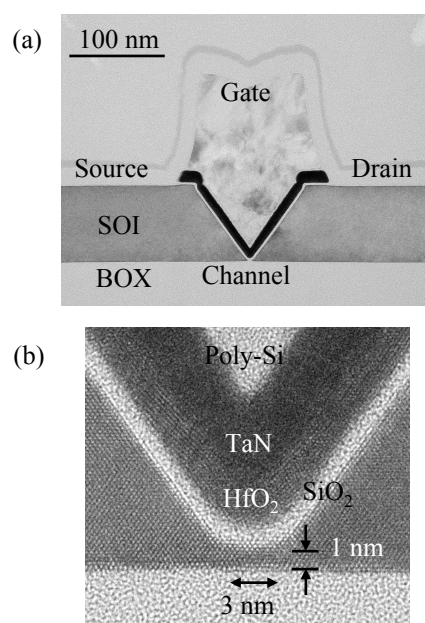

Fig. 1 (a) TEM image of the V-groove MOSFET and (b) the high resolution image of the channel region.
Cross-sectional TEM image of the V-groove MOSFET is shown in Fig. 1. The V-groove consists of atomically flat Si(111) facets. The channel thickness below the V-grooves is as thin as 1 nm. The channel length, determined by the width of V-groove bottom is as short as 3 nm. It is noted that the SOI layer is uniformly doped with high concentration dopants by the long-period anneal at 1000°C. The MOSFET thus fabricated is the junctionless-FET (JL-FET) [3]. The current flow is controlled at the ultrathin channel region with 3-nm-length and 1-nm-thickness. The thick S/D region contributes to the reduction of parasitic resistance.
region shown in Fig. 1(b), competitive action of these quantum effects is likely to be responsible for the superior modulation of current flow.